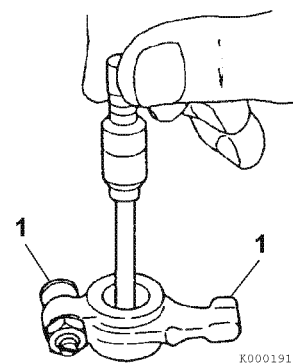

Figure 6-12
Use a telescoping gauge and micrometer to measure the inside diameter of all the rocker arm support brackets and the rocker arms (**Figure 6-12**). Record the measurements. See *Rocker Arm and Shaft* on page 6-6 for the service limit.
Inspect contact areas (**Figure 6-12, (1)**) for excessive wear or damage.